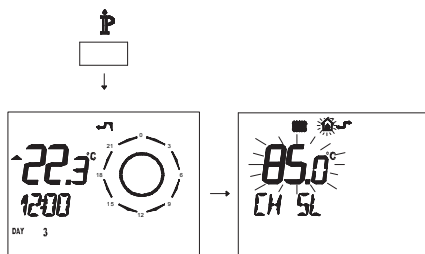

Fig. 7.28
- Press button **P** for more than 3 seconds to enter in **INFO** mode (Fig. 7.28).